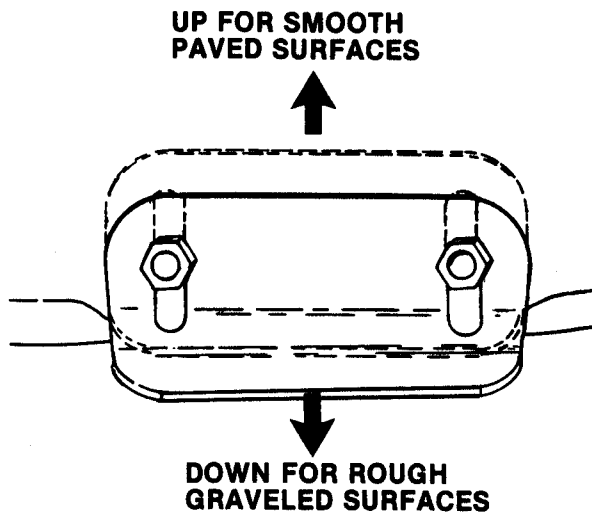

FIGURE 8 - SKID SHOE ADJUSTMENT
- **RESET SKID SHOES** to suit area to be cleared. Lower skid shoes to provide greater clearance over gravel or raise the shoes for smooth, paved surface. Refer to FIG. 8 skid shoe adjustment for details.
The skid shoes should be lowered to raise the blower housing to clear gravelled or rough surfaces, or adjust until almost even with the edges of the housing to allow clearing down to smooth paved surfaces. Note that the skid shoes can be installed upside down to track better over icy or hard-packed surfaces. To adjust the skid shoes, place a block under the lower edge of the blower housing, loosen the retaining nuts and slide shoe up or down to desired height then retighten the nuts. Set both skid shoes in the same position. Remove the block. See FIG. 8.